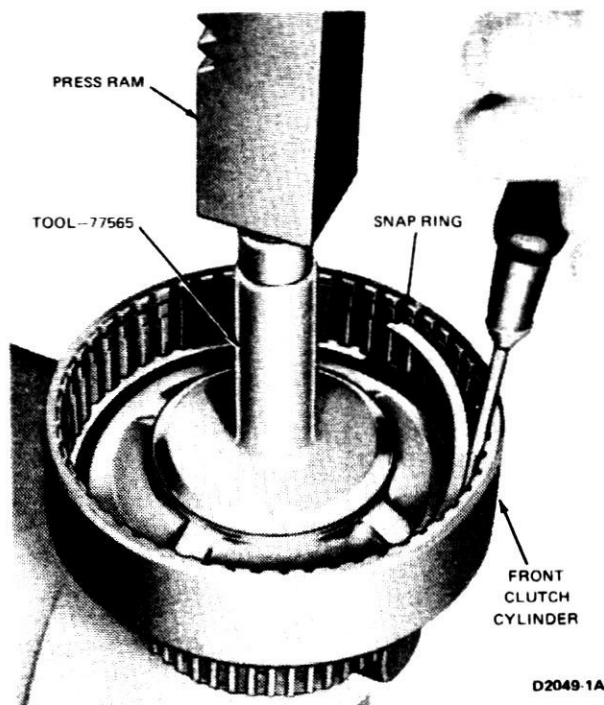

FIG. 43 Removing or Installing Front Clutch Snap Ring
4. Place the front clutch spring compressor on the release spring, position the clutch drum on the bed of an arbor press, and compress the release spring with the arbor press until the release spring snap ring can be removed (Fig. 43).